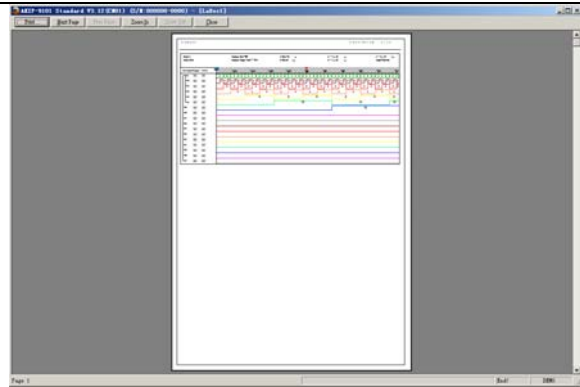

Fig 3-17: Click to show a **Preview** of the **Print**.
- ← **Print Preview**—Show three options: Bus/ Signal & Trigger & Filter, Position Display Area and Waveform Display Area (See Fig. 3-17).